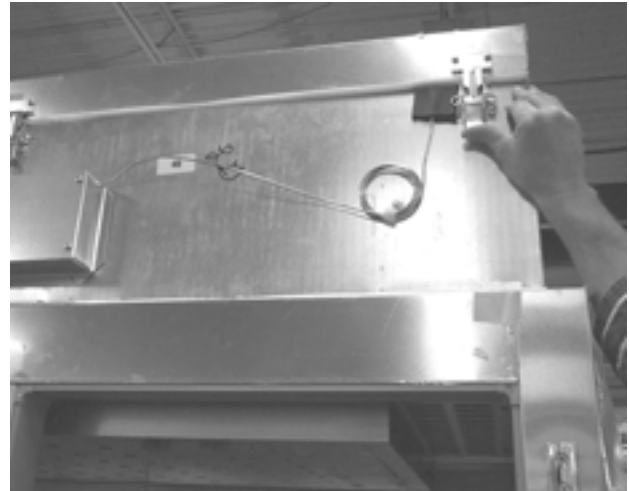

Figure 4-54
1. Remove the evaporator-housing lid (Figure 4-54).